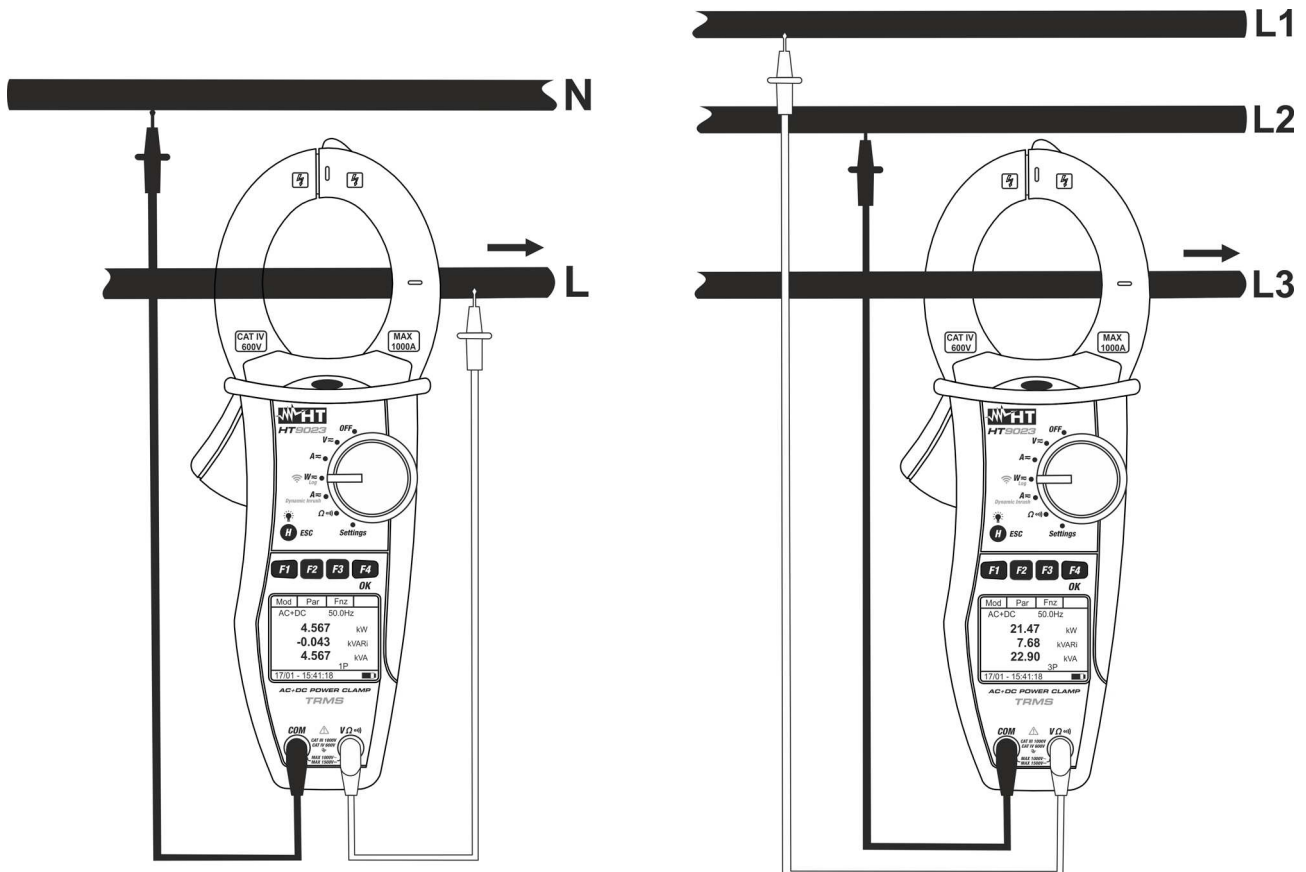

Fig. 13: AC/AC+DC power measure on Single phase and balanced Three phase systems
6. Connect red cable to input lead **VΩ[~]** and black cable to input lead **COM** then perform the connection as indicated in Fig. 13 depending on the type of system under test. Put the phase cable into the clamp jaws respecting the direction of current indicated by the arrow (see Fig. 13). Connect the cable to the middle of the clamp jaws, in order to get accurate measurements. Use the marks as a reference (see Fig. 2)